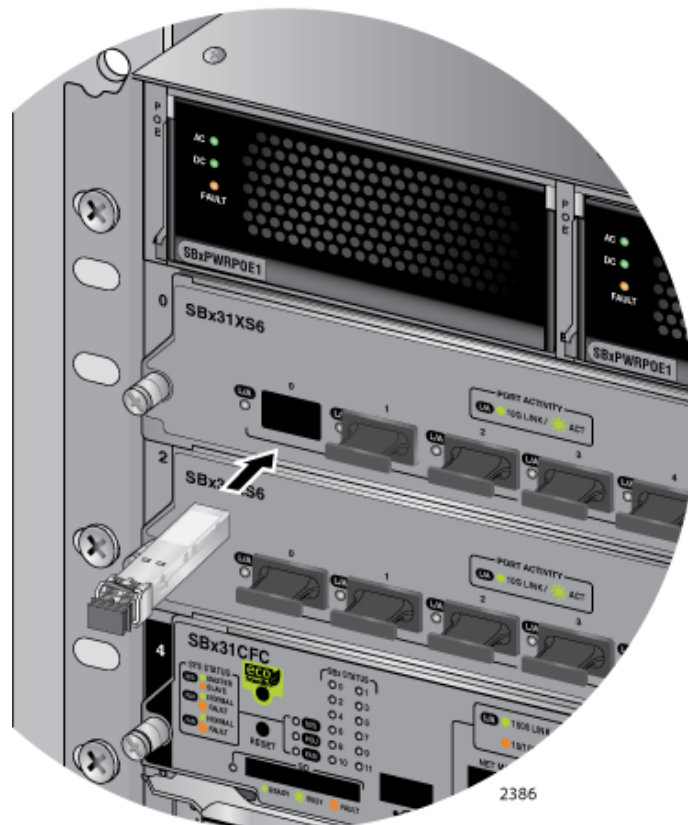

Figure 97. Installing an SFP+ Transceiver in the AT-SBx31XS6 Line Card
3. Slide the transceiver into the slot until it clicks into place, as shown in Figure 97.